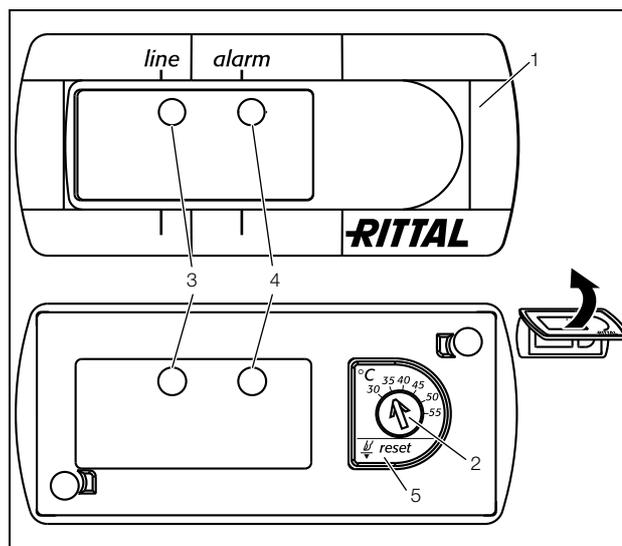

Fig. 28: Basic controller
- Set the required temperature on the temperature setting device (fig. 28).
- Press the reset button (fig. 28, item 5) for at least 3 seconds.